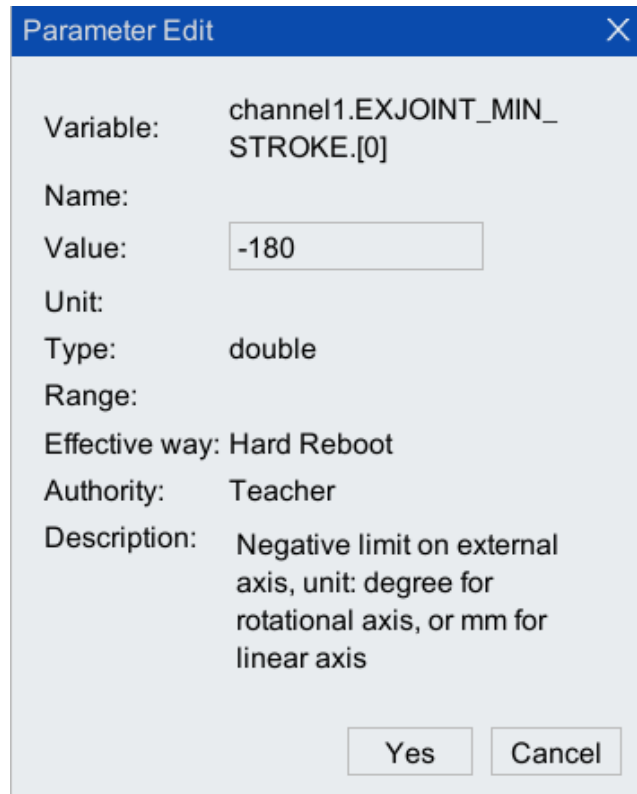

Figure 4-19 External axis negative limit configuration interface
- Step 5. The dialog box shown in Figure 4-19 pops up. Configure the parameter in [Value] (this value is the actual negative limit value of the positioner), and click <Yes>.